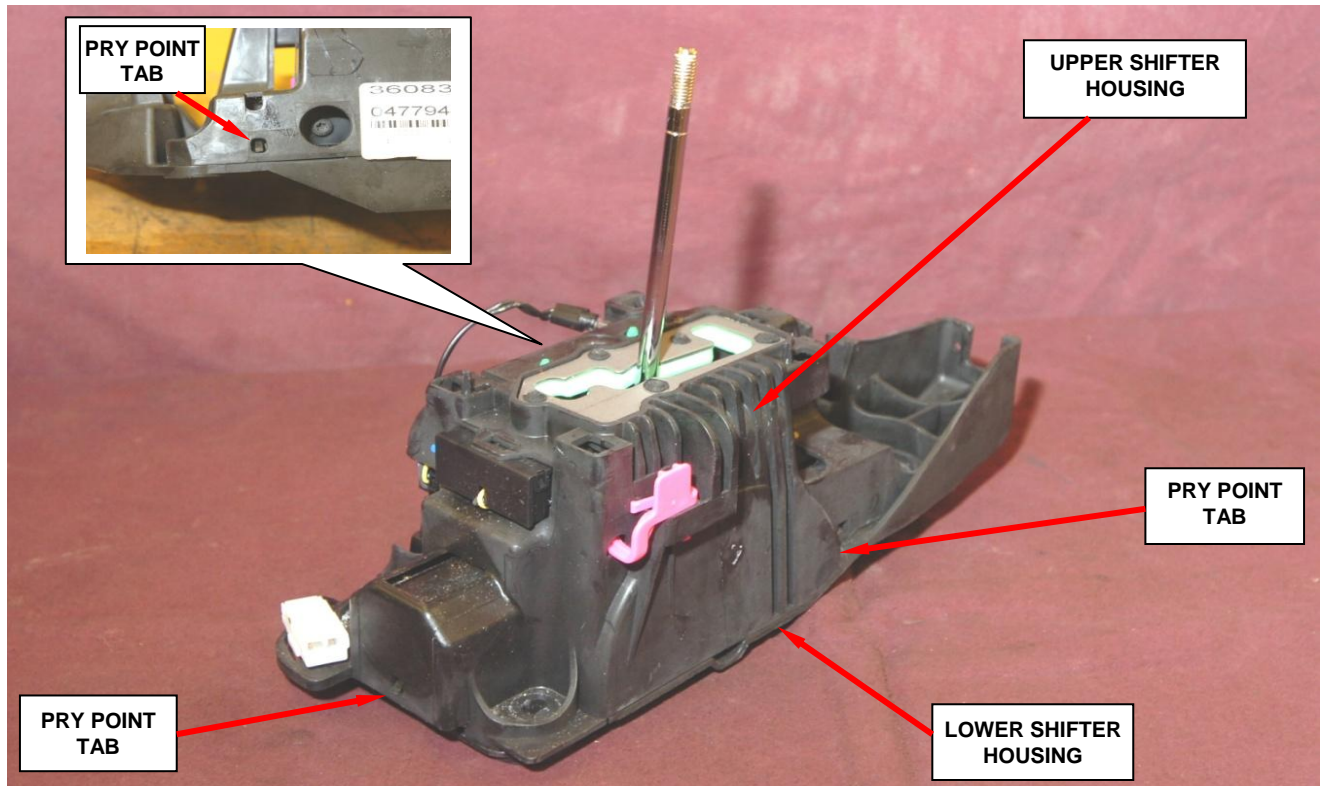

Figure 4 - Separate Upper Shifter Housing from Lower Shifter Housing
20. Partially separate the upper shifter housing from the lower shifter housing by prying on the three retaining tabs (Figure 4).